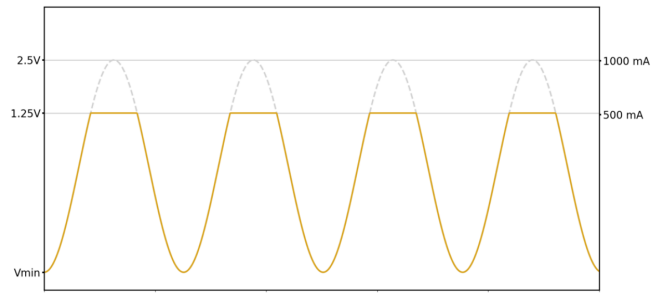

Figure 3.41: Cropped LED excitation signal
- **Custom** - this setting allows users to manually adjust the  $V_{max}$  and  $V_{min}$  of the LED, regardless of LED maximum current. Care should be taken to remain below the maximum voltage, or the excitation signal will be cropped at the true maximum value (see Fig. 3.41).